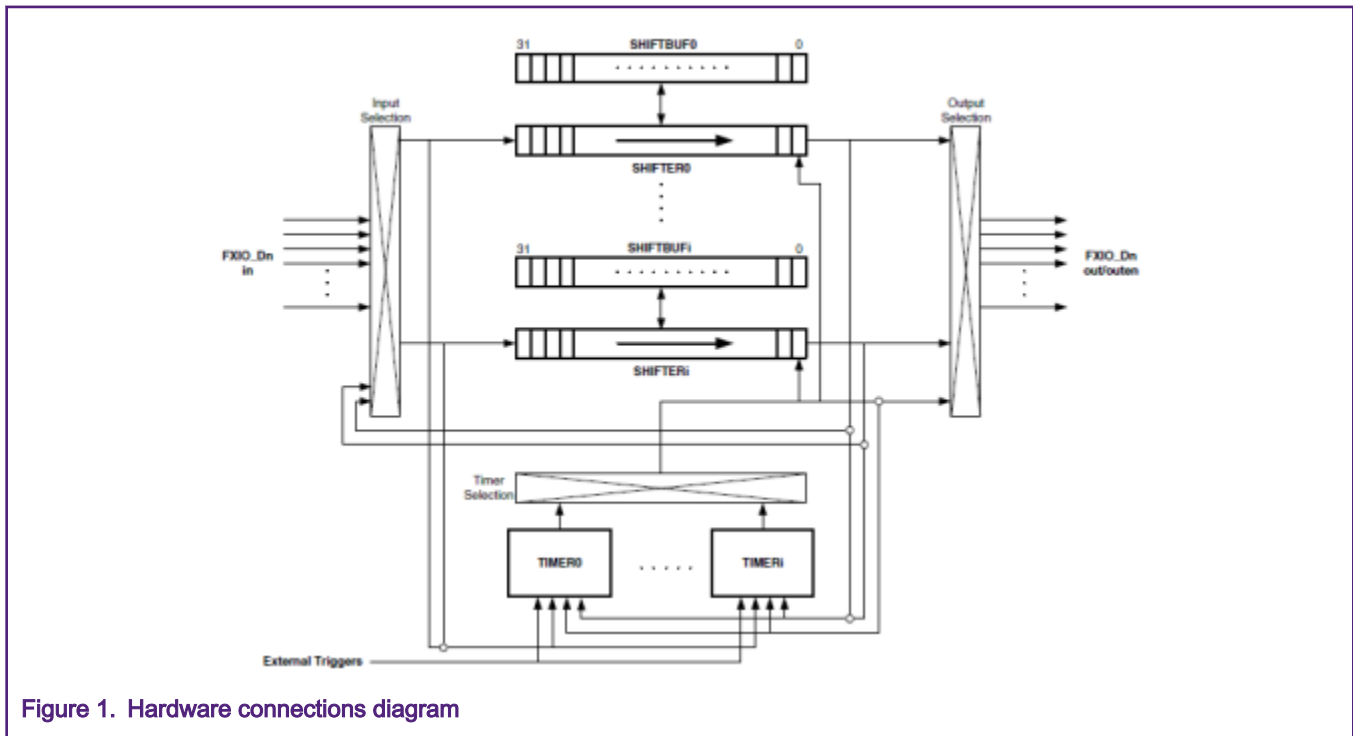

Figure 1. Hardware connections diagram
- Any pin/pins can be assigned to a shifter for input or output, as shown in Figure 1.
- Any timer can be assigned to a shifter for shift control, as shown in Figure 1.
- Any pin can be assigned to a timer for timer input or output, as shown in Figure 1.
- Timer triggers can originate from shifter flags, pins, or outside the FlexIO module, as shown in Figure 1.